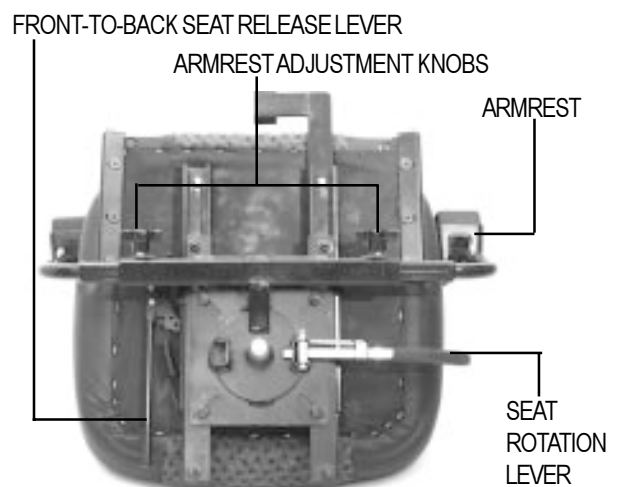

FIGURE 15. SEAT ADJUSTMENTS
1. Pull out the front-to-back seat release lever. See figure 15.
1. Push down on the seat rotation lever to unlock the seat. See figure 15.
1. Loosen the armrest adjustment knobs at the back of the seat frame. See figures 15 and 16.